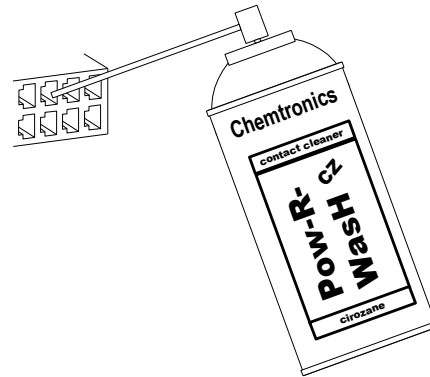

Figure 1
3. **Clean** each terminal using Chemtronics® contact cleaner “Pow-R-Wash CZ “ as shown in Figure 1.